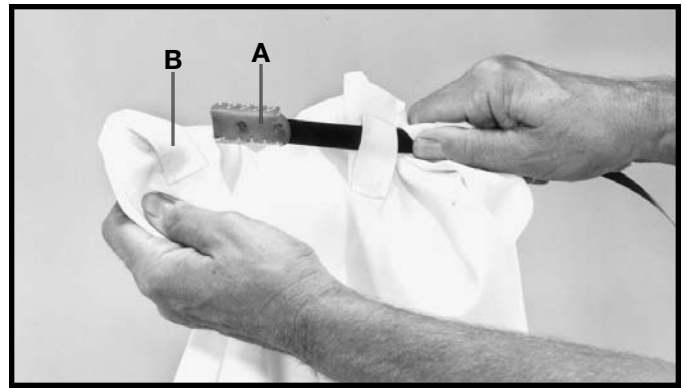

Fig. 27
1. Insert bag clamp (A) Fig. 27, through the loops of the dust bag (B).